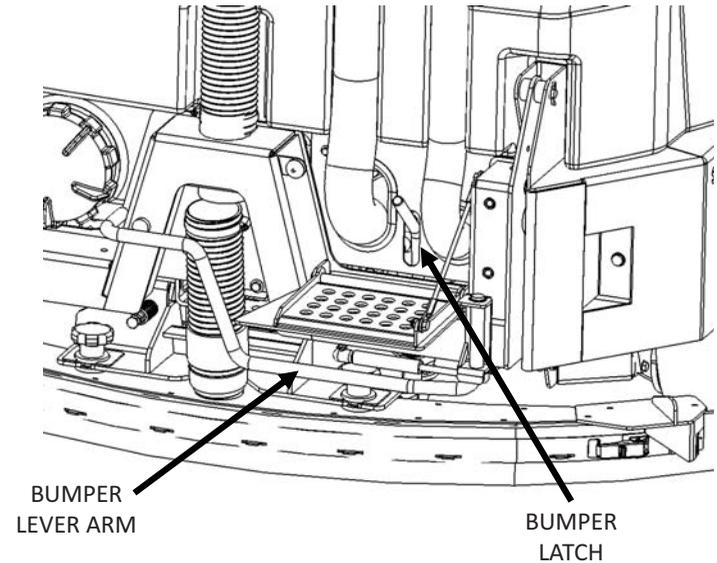

Fig. 1
4. Swing the orange bumper lever arm out from under the rear bumper. (See Fig. 1)
2. Open the demister. (See Fig. 1)